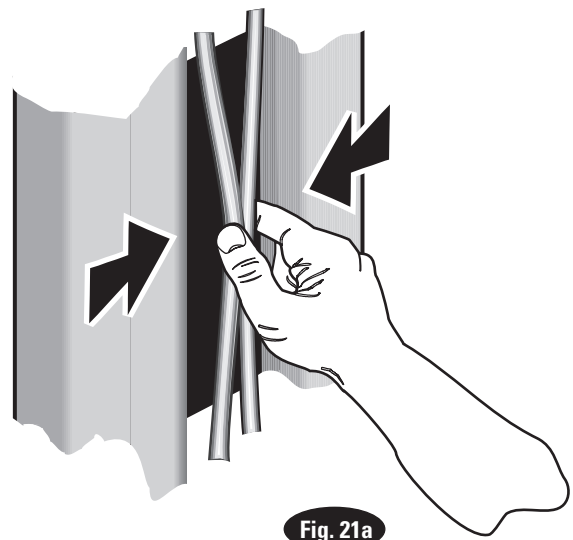

Fig. 21a
**22. Equalizer Cable Adjustments:** Raise lift to check equalizer cable tension. Below carriage, grasp adjacent cables between thumb and forefinger, with about 15 lbs. effort you should just pull the cables together. Adjust at upper tie-offs Fig. 21a.